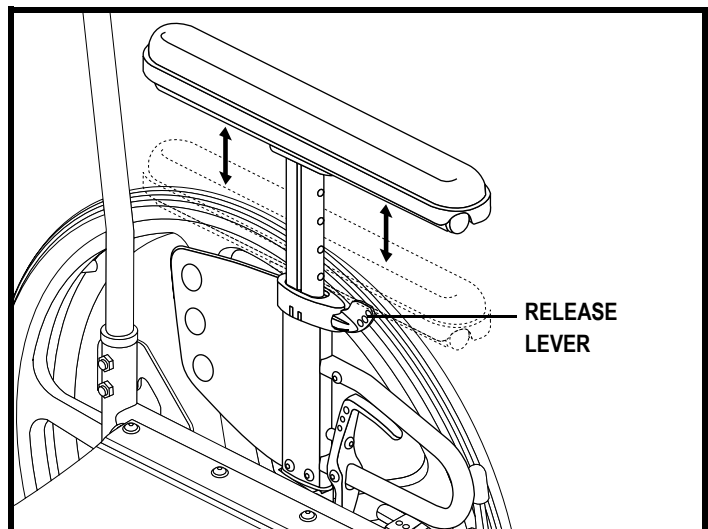

Figure 33. Drop-in Armrest Height Adjustment
1. Pull back the release lever located on the armrest. See **figure 33**.